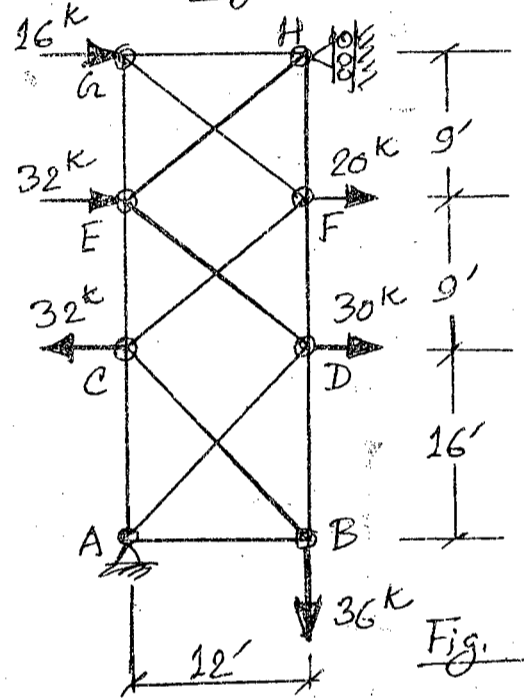

Fig. 9
12. By approximate analysis, calculate the bar forces in the truss shown in Fig. 9. (28)